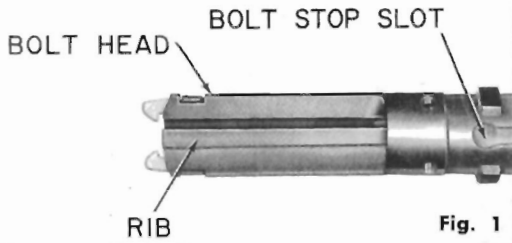
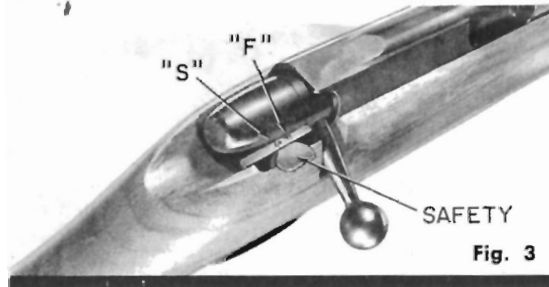

Fig. 1
Fig. 3
**TO PUT BOLT IN RIFLE** — Align bolt stop slot on bolt body (Fig. 1) with rib on bottom (flat) of bolt head. Rotate and hold safety (Fig. 3) completely forward. With firing pin on top of bolt head (in 12 o'clock position) insert and push bolt forward into receiver. When locking lugs on bolt are no longer visible, safety may be released.
**SAFETY** — (Fig. 3) Rotate safety to rear stop position marked "S" on receiver. Trigger cannot now be pulled to fire rifle.